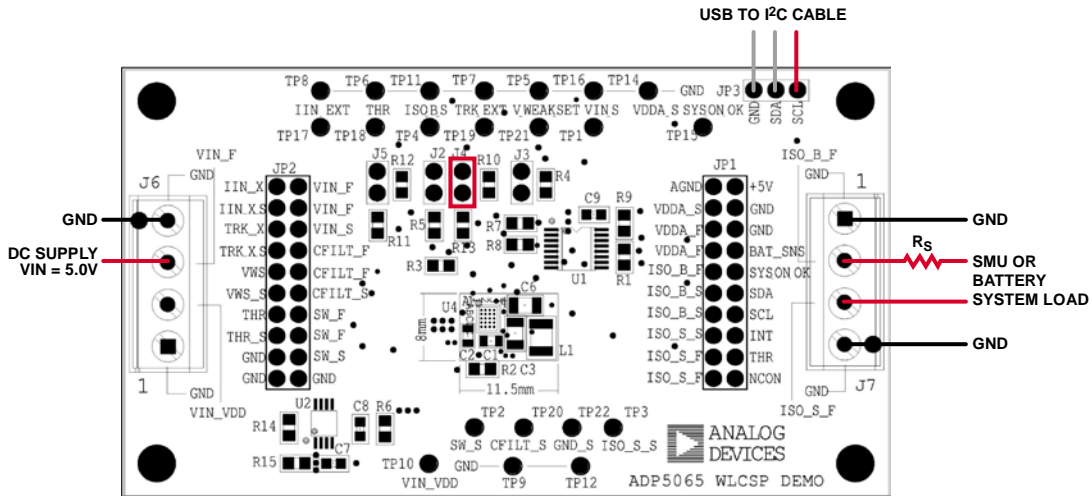

Figure 15. ADP5065 WLCSP Demo Board Typical Operation Setup
2. Connect a 5 V power supply between the VIN_F and GND screw terminals (see Figure 15).
A typical test setup for the ADP5065 charger consists of a dc power supply unit (PSU) for V_{VIN} , a source meter unit (SMU) or a battery simulator for the ISO_Bx pin, and a variable power resistor or an electronic load for the ISO_Sx pin (see Figure 15).
The **ADP5065** fast charge constant voltage (CV) regulation has been optimized for batteries that have series resistance in the range of 100 mΩ to 250 mΩ. When using an SMU or a battery simulator connected to ISO_Bx, the series resistance (R_S in Figure 15) should be within this range.